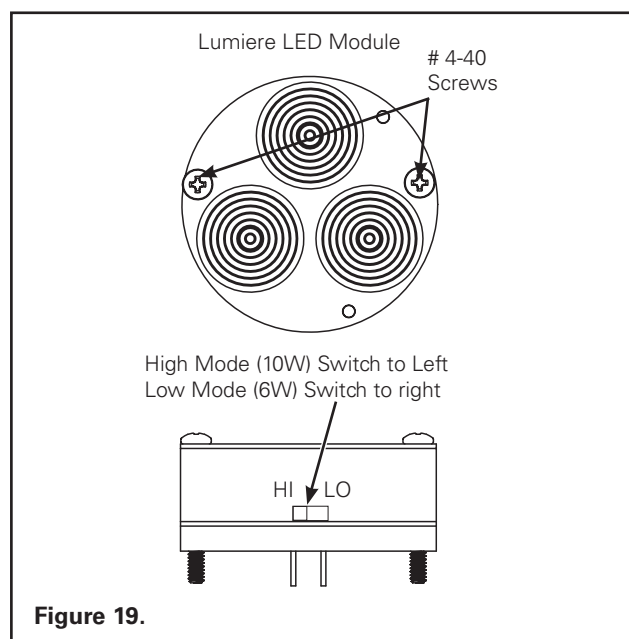

Figure 19.
1. Remove lens bezel by loosening the four screws and lifting out lens bezel. (Figure 19.)